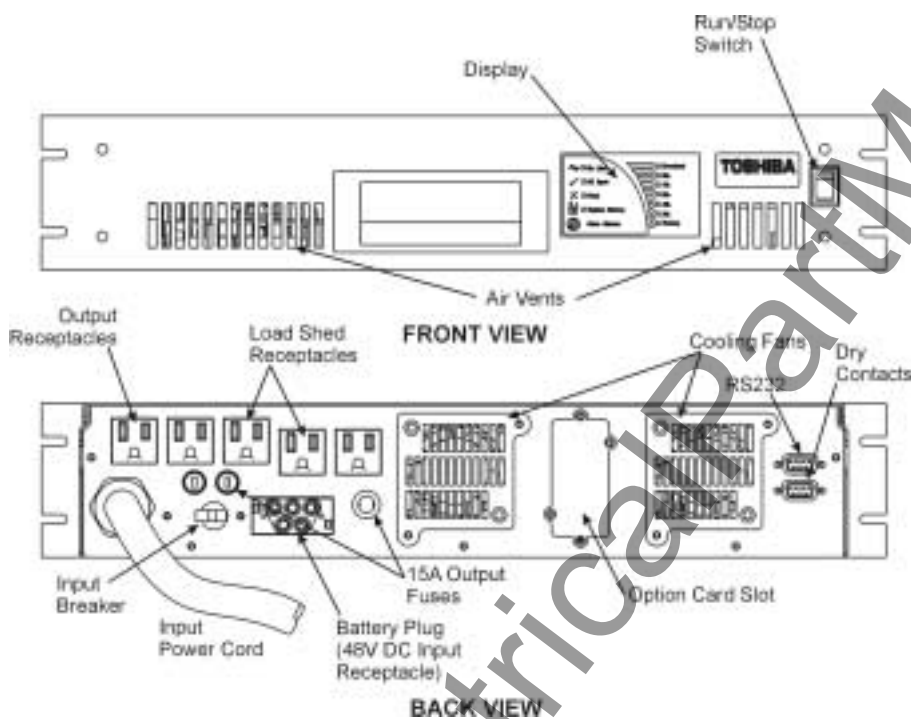

Figure 1
Once the modules have been connected as shown in the preceding section (UPS Connections, page 10) the UPS system is ready to be started. There are two ways to start the system: from AC input power (if present) or from batteries. If not already done, switch the input breaker on (figure 1, page 9). If the "AC Input" LED is lit, proceed on to "Starting when AC power is available". If the LED is not lit, there is no AC power available. If the unit is to be started when AC power is not available proceed to "Starting on DC power."
Step 1: Make sure the RUN/STOP switch is in the STOP position. If the UPS is being started on DC power because the AC power is out of range, the input breaker must be in the OFF position (figure 1, page 9).
Option 2: The other option is to turn the UPS off completely. This means that in addition to the UPS's inverter shutting down, **all power will be stopped to any equipment attached to the UPS.** To shut the UPS down completely switch the RUN/STOP switch to the STOP position. Then switch the input breaker off (figure 1, page 9). Once the input breaker has been switched off, all the LEDs should turn off. (If the RUN/STOP switch is in the RUN position when the input breaker is switched off, the unit will switch to battery backup mode. The unit will continue to run for as long as the available battery reserves can support the connected loads.)
The 1700 Series includes a load shed function. During battery backup operation, this function allows the load connected to two of the receptacles (figure 1, page 9) to be turned off in an effort to conserve power for more critical loads. The battery level at which these two receptacles will be turned off, or "shed", can be set by the user (see "The Function Control Button", page 16). By default, this feature is configured so that these two receptacles will remain on for the full battery backup time available (no "shedding")